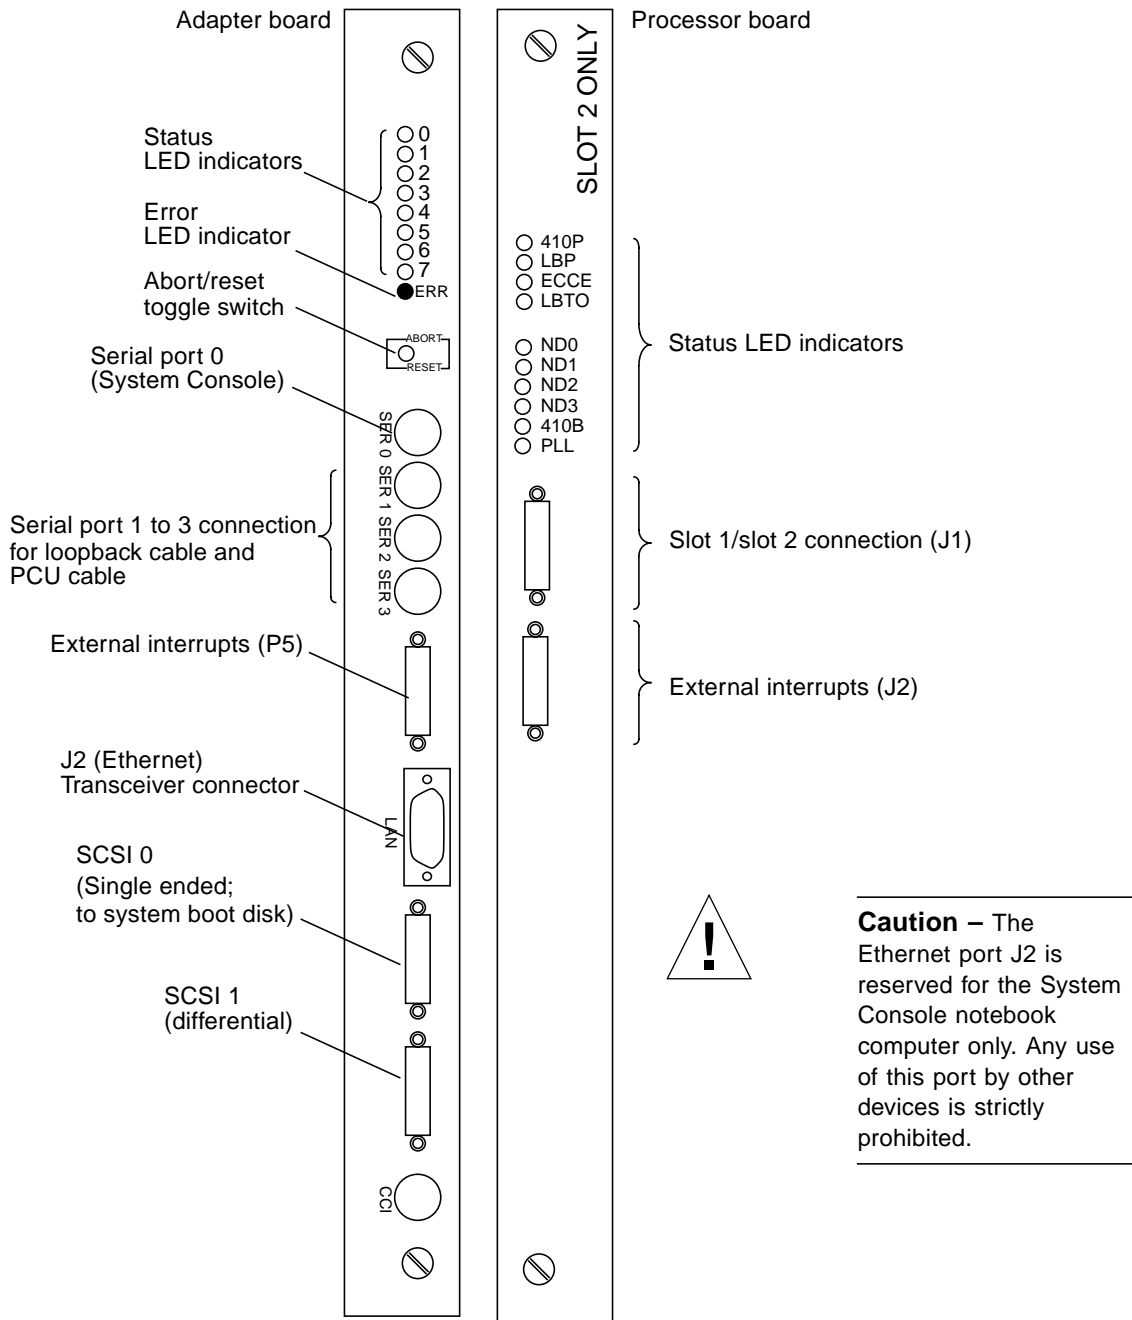

FIGURE 6-31 Processor Card Set Front Panels
1. **Remove the System Console cable at serial port 0. See FIGURE 6-31 for the port location.**